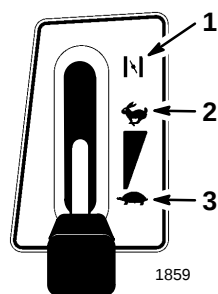

Figure 8
4. Move the throttle lever to "CHOKE" (Fig. 8).
6. After the engine starts, slowly move the throttle lever to “FAST” (Fig. 8). If the engine stalls or hesitates, move the throttle lever back to “CHOKE” for a few seconds. Then move the throttle lever to “FAST.” Repeat this as required.
1. Move the throttle lever to “SLOW” (Fig. 8).